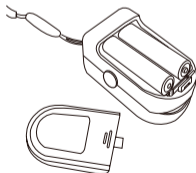

Figure 3 Batteries installation
Step 1. Refer to Figure 3 and insert the two AAA size batteries properly in the right direction.